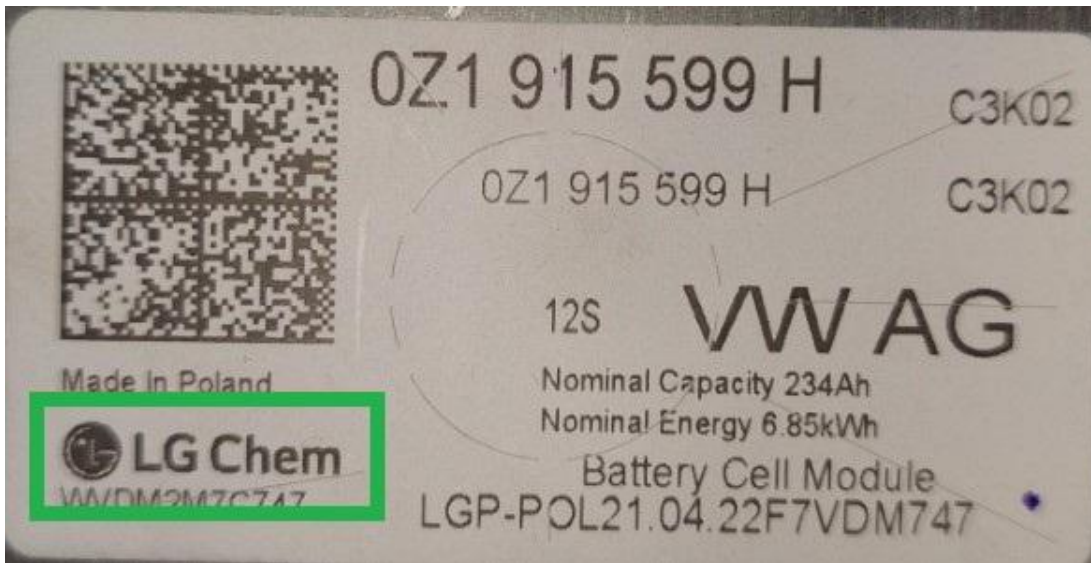

Figure 1. Type plate on the high-voltage module from manufacturer LG Chem.
- The high-voltage module manufacturer can be found on the type plate of the high-voltage module (see Figure 1, highlighted in green).